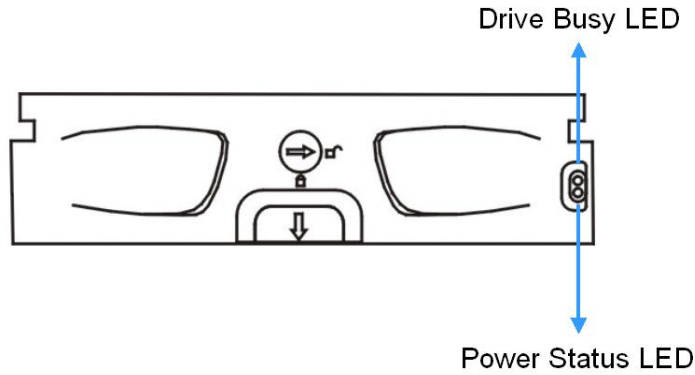

Figure 3-4: Drive Tray LEDs
The drive trays come with two (2) status-indicating LEDs, one that indicates power and the other that indicates hard drive activities. The LEDs are shown in *Figure 3-4* and their definitions in *Table 3-5*.